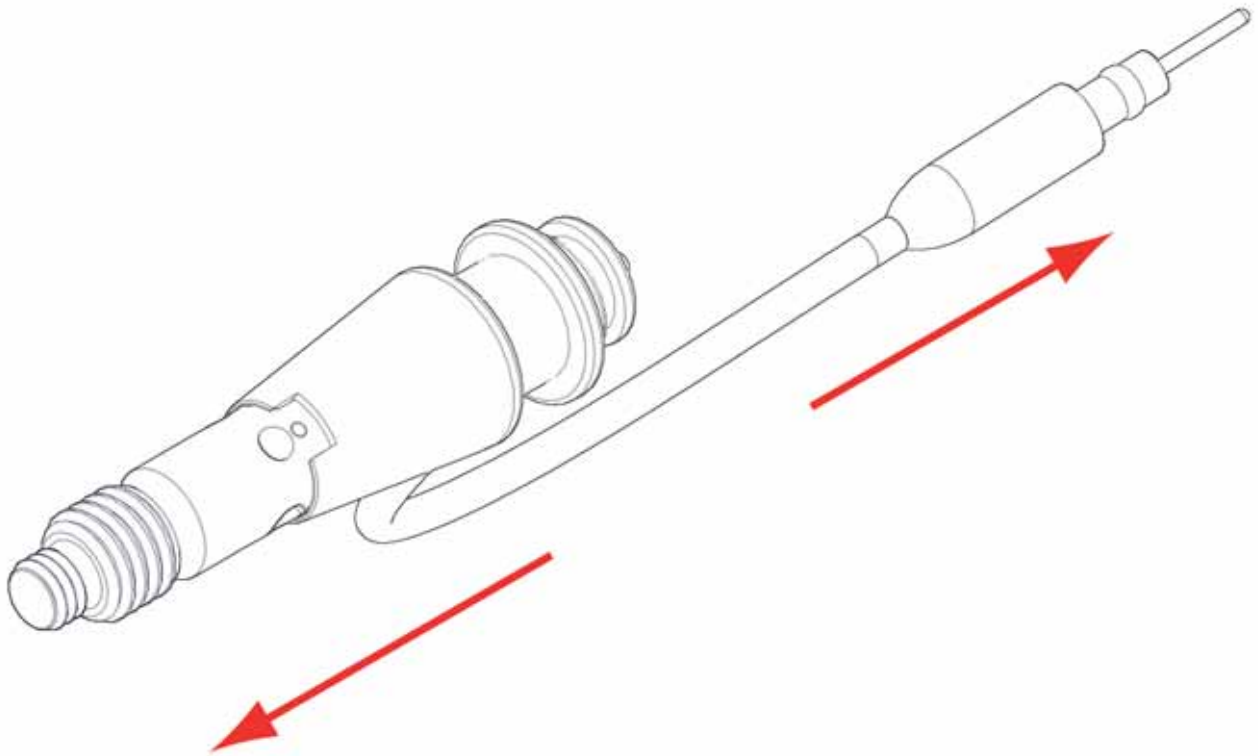

Figure 2-16 *Pulling apart the release housing and threaded stud.*
5. Ensure that the release housing and the threaded stud are securely fastened by attempting to pull them apart (Figure 2-16). They should be attached firmly and not come free.